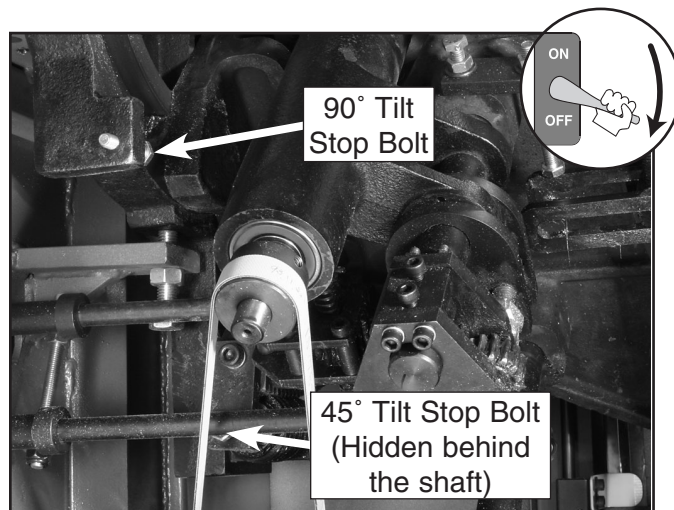

Figure 92. Blade tilt stop bolts.
4. If a gap exists at either the top or bottom of the square, loosen the 90° tilt stop bolt shown in **Figure 92**.
9. If variations exist, adjust the 45° tilt stop bolt (**Figure 92**) until the blade and square match.